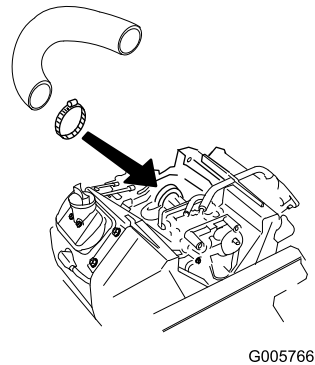
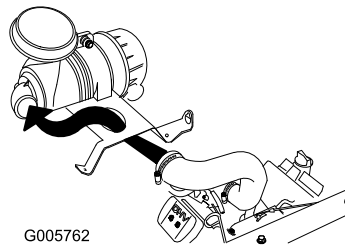

Figure 20
Figure 22
3. Remove the hose from the air cleaner and install it onto the air intake on the engine. This will make it easier to install the hose when the air cleaner is installed to the engine (Figure 20 and Figure 22).
6. Install the hose into the air cleaner base (Figure 22).